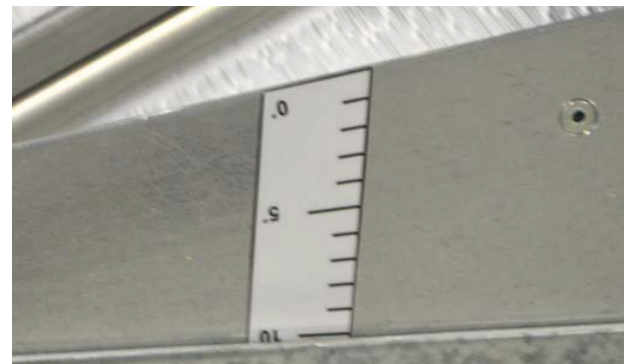

Fig. 29 — Set Purge Angle
2. Adjust purge sector to the specified angle (Fig. 29).